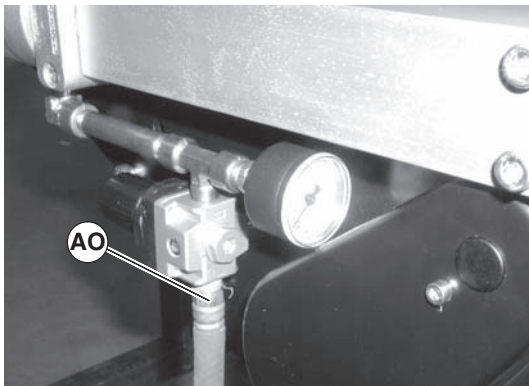

Figure 61
1. Remove air supply and remove hose (Figure 61, item AO) from center drive.